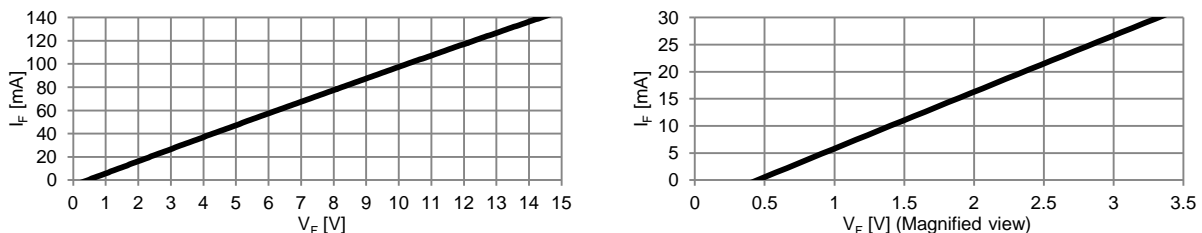

Figure 2. Built-in Bootstrap Diode V_F - I_F Characteristic (@ $T_a=25^{\circ}\text{C}$).
- The characteristics of bootstrap diode are described in Figure 2.